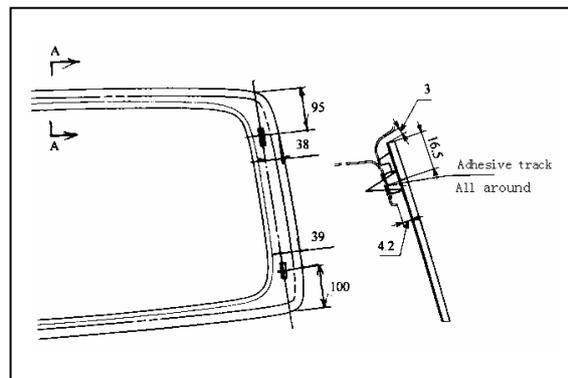

Fig. 19-29
- ④ Apply the adhesive to the glass along the center line as Fig. 19-29 shown.
- ⑤ The rest of operations refer to the installation of windshield.